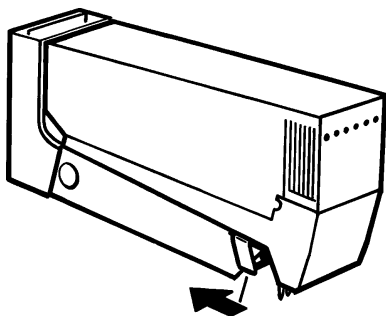

Figure 2.2a Pen lift bar
4. Ensure that the pen lift bar (fig 2.2a) is pushed fully back. If not, gently push it back, or turn the recorder off then on again.